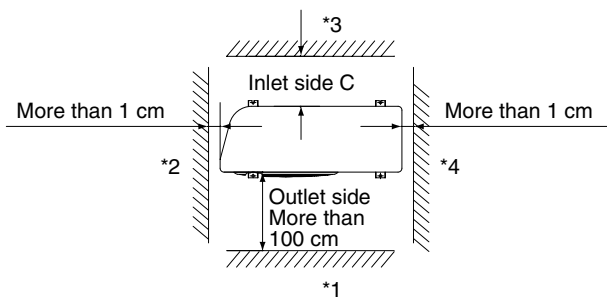
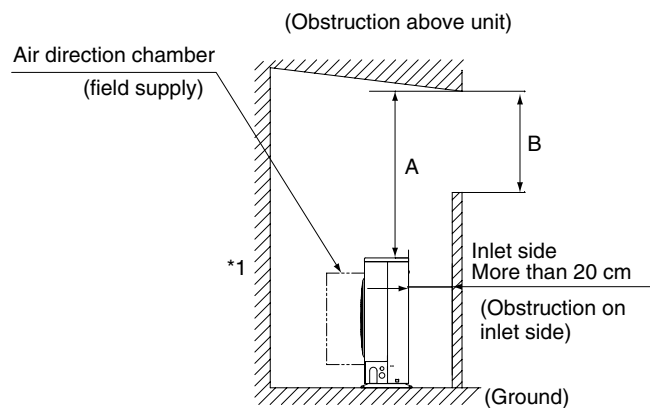

Fig. 2-9
Fig. 2-10
- allow enough room around the unit for air intake/exhaust and possible maintenance. (Fig. 2-9)
- Concerning inlet-side distance "C" (Fig. 2-9)
- If wall \*1 is on the outlet side (Fig. 2-9), or if obstructions are present on all 3 sides \*2, \*3, and \*4 (Fig. 2-9), then the minimum distance for "A" and "B" is 2 m (Fig. 2-10). Even if there is no wall on the outlet side, a minimum of 100 cm is required.